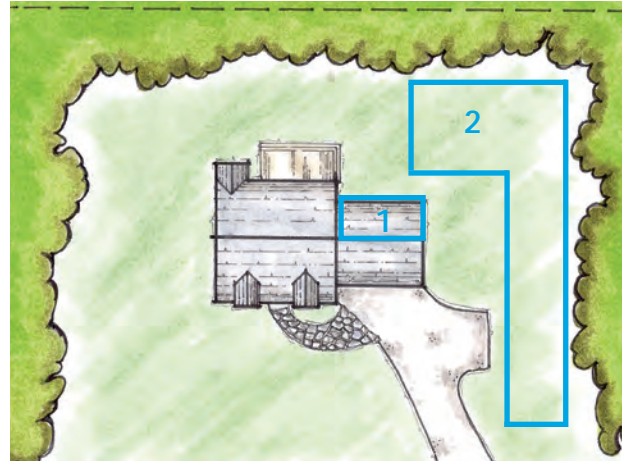

Figure 5. Draw the boundary lines (drainage areas) for stormwater endpoints.
2. Draw a boundary line on your project map around the area that drains to each stormwater endpoint. The boundary line represents the "drainage area" or watershed for each stormwater endpoint. For example, if all of the runoff from the back of your garage roof drains to a single gutter downspout, the roof is the drainage area to the stormwater endpoint at the downspout. And if the right side of your yard all drains toward the road, that is a separate drainage area. You can identify these drainage areas on your property map by drawing a line around their perimeters (Figure 5).